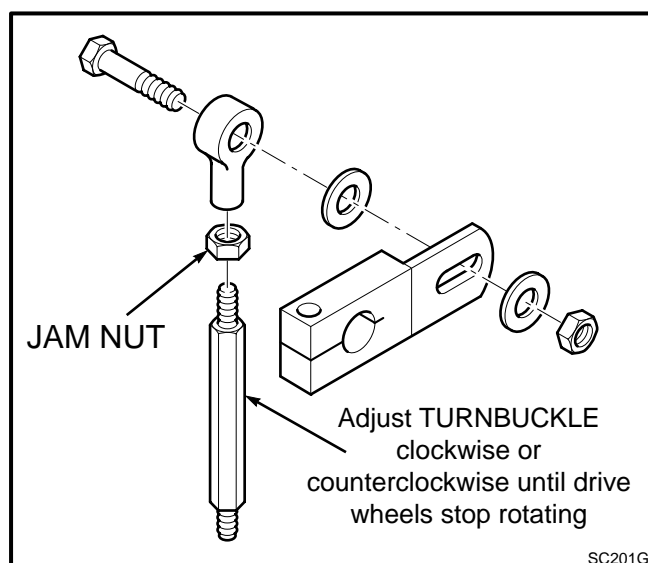

Figure 2
4. Adjust each drive wheel separately by using the turnbuckles located under the seat. Loosen the jam nut on the turnbuckle. (See Figure 2)
5. If the drive wheel is rotating forward, adjust the turnbuckle clockwise. If the drive wheel is rotating rearward, adjust the turnbuckle counterclockwise. Adjust until the drive wheel stops turning. (See Figure 2)
6. Readjust neutral if necessary. (See Figure 2)